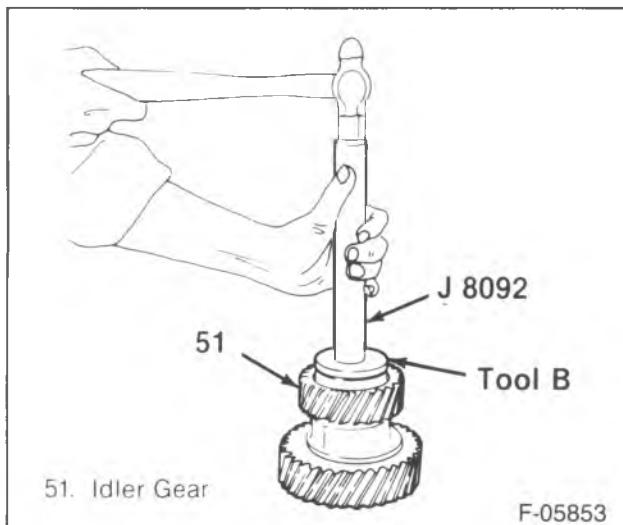

Figure 9—Bearing Cup Installation
1. Two bearing cups (50) in the idler gear (51) using Tool-B and J 8092 (figure 9).
2. Two bearing cones (50), spacer (52), shims (53), and idler gear (51) on J 23429 with the bore up.